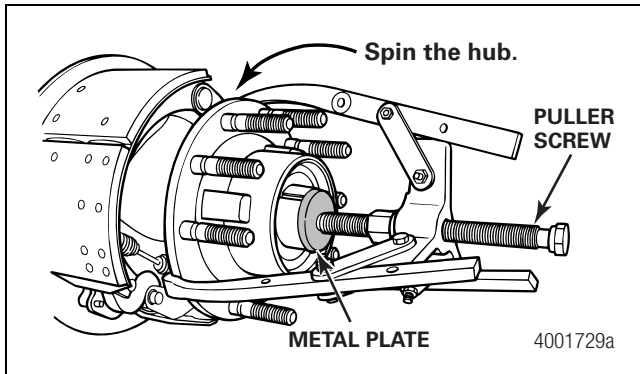

Figure 4.27
- A. Install a metal plate onto the end of the spindle. Figure 4.27.
- B. Attach a three-pronged puller to the hub. Figure 4.27.
- C. While holding the puller screw stationary, spin the hub to break it free from the axle. Figure 4.27.